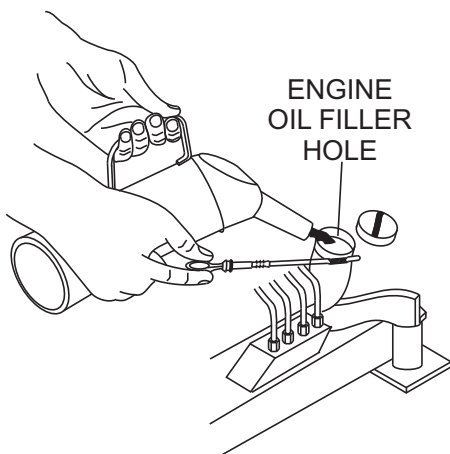

Figure 8. Engine Oil Dipstick
4. If engine oil is low, fill engine crankcase with lubricating oil through filler hole (Figure 8), but do not overfill.